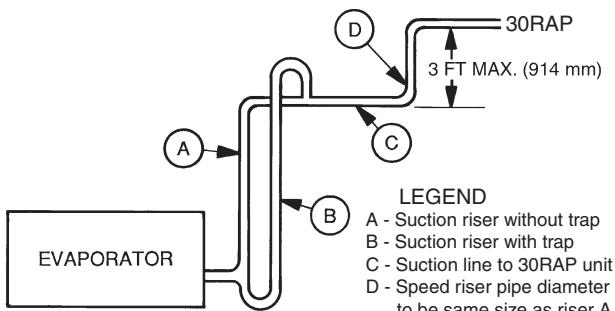

Fig. 8 — Suction Riser/Speed Riser Piping
11. Double suction riser is required on some units if refrigerant flow is up. See Table 5 for required units and piping details. Refer to Fig. 8 for suction riser and speed riser piping diagram.
- a. Shading indicates double suction risers required. Refer to Table 5 and Fig. 8 for double suction risers/speed riser piping designations.